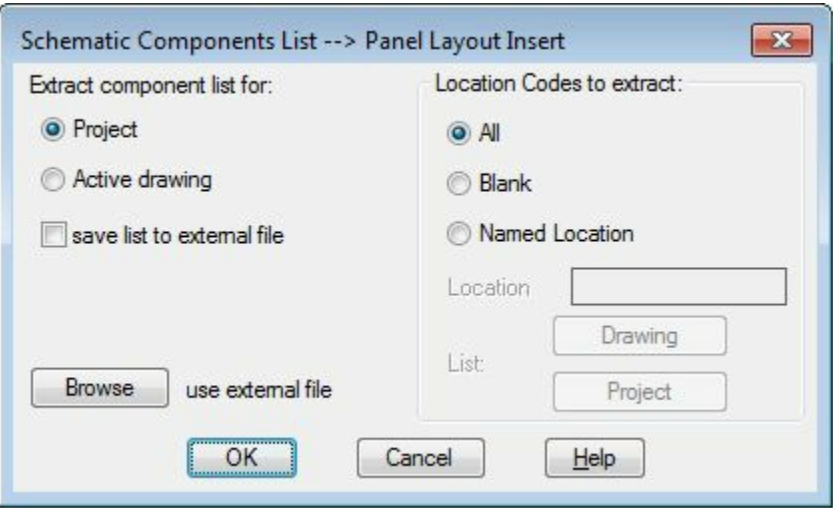

Figure-54. Schematic Components List dialog box
- Click on the **Schematic List** tool from the **Insert Component Footprints** drop-down in the **Insert Component Footprints** panel. The **Schematic Components List** dialog box will be displayed; refer to Figure-54.